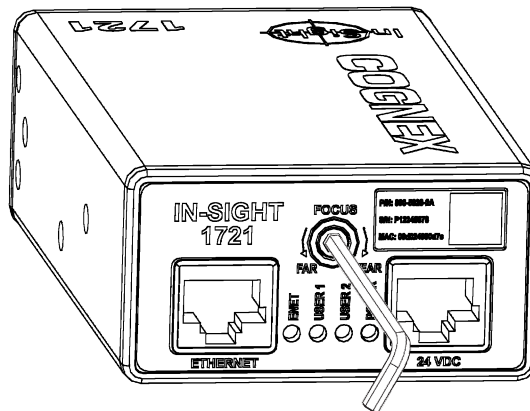

Figure 2-5: Location of Focus Adjustment Screw
2. Remove the label covering the focus adjustment screw (M3 hex screw) located by the wafer reader's ETHERNET port and 24 VDC port (see Figure 2-5).